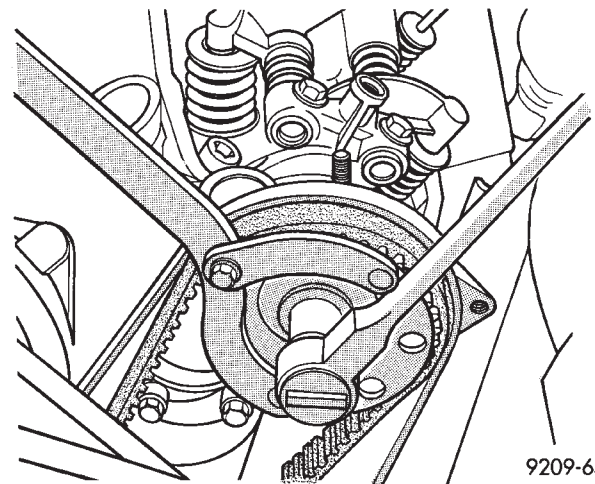

Fig. 15 Camshaft Sprockets
- (1) Hold camshaft sprocket with Spanner Tool MB990775 loosen and remove bolt and washer (Fig. 15).
- (2) Remove camshaft sprocket from camshaft.
- (1) Place camshaft sprocket on camshaft.
- (2) Install bolt and washer to camshaft. Using Spanner Tool MB990775 hold camshaft sprocket and torque bolt to 95 N•m (70 ft. lbs.) (Fig. 15).